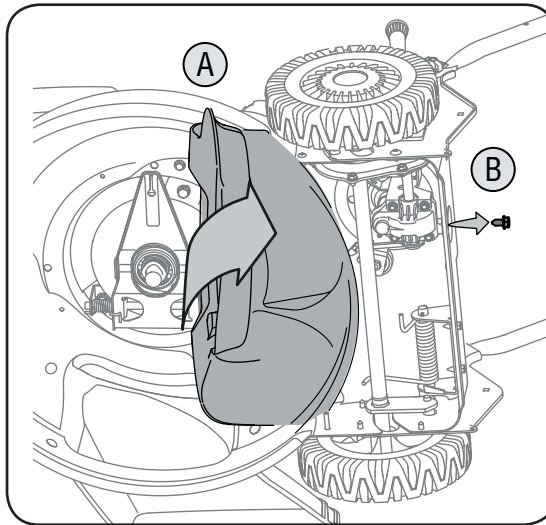

Figure 14
7. Pivot baffle towards the rear of the mower. See Figure 14.
8. Remove the hex bolt holding the transmission to the mower housing. See Figure 14.